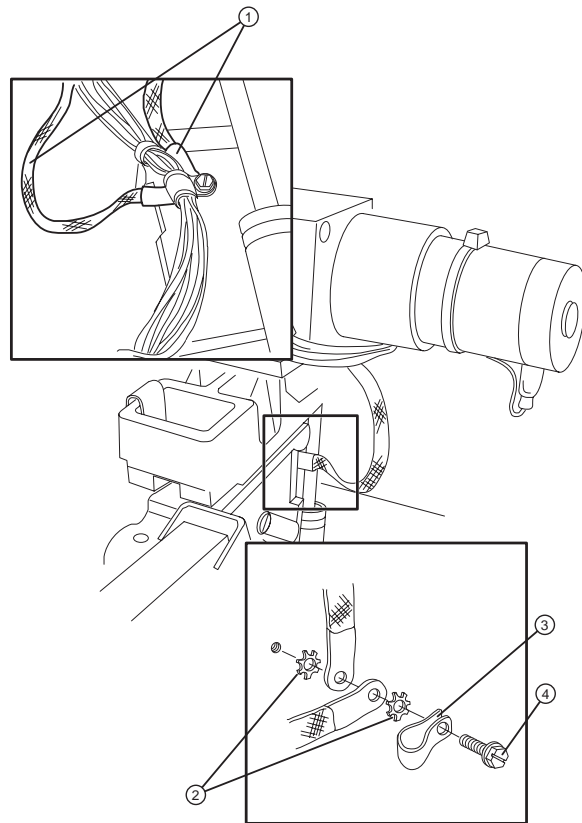

Figure 1-22 Attaching the ground cables.
2. Attach the two (2) ground wires to the bottom of the P-clamp. Refer to Figure 1-22. Attach the hardware in the following order: